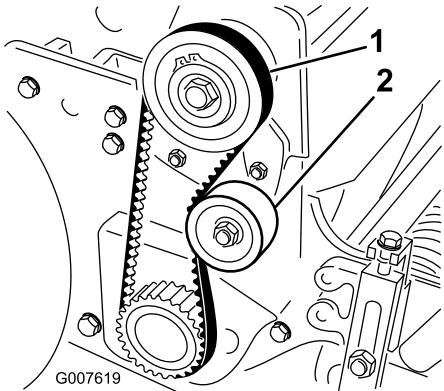

Figure 39
2. Check the tension by pressing the belt at mid span of the pulleys (Figure 39) with 18–22 N (4 to 5 lbs) of force. The belt should deflect 6 mm (1/4 inch).
- A. Loosen the idler pulley mounting nut and pivot the idler pulley clockwise against the backside of the belt until you attain the desired belt tension (Figure 39).